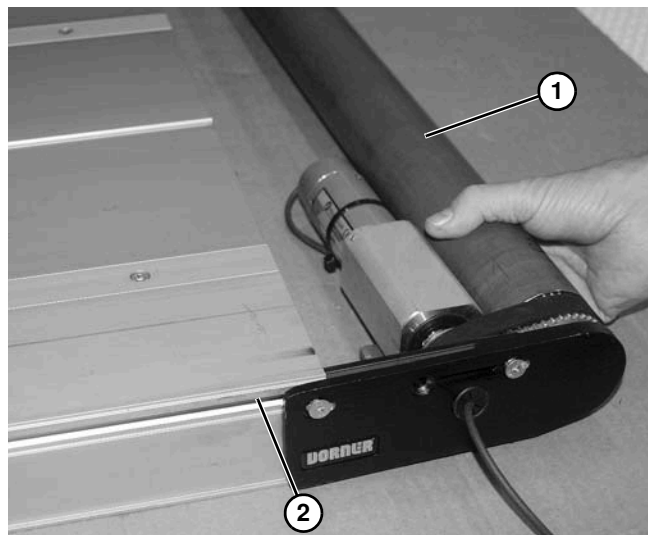

Figure 99
5. Remove drive end assembly (Figure 99, item 1) from slots (Figure 99, item 2) on conveyor frame.